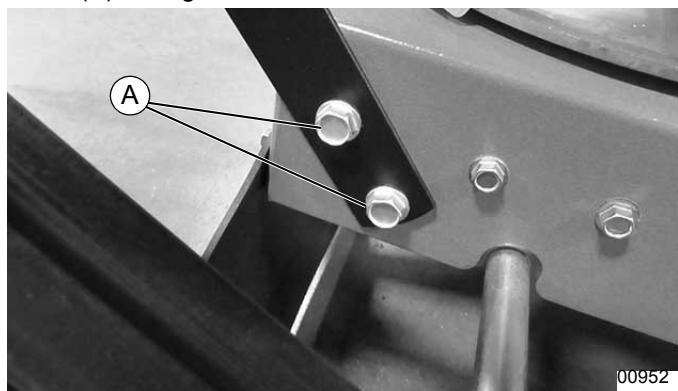

Figure 2-3. Lower Handlebar Bolts
1. See Figure 2-3. Verify handlebar mounting bolts (A) are tight.